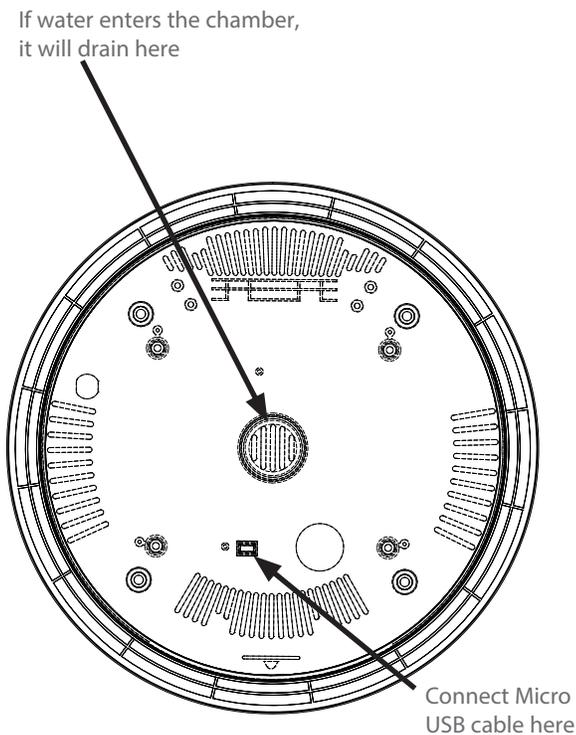

Figure 7: Micro USB Connector
CAUTION: The SinAqua™ Souper™ is designed to operate without water and does not employ steam to heat food. If water is allowed to enter the chamber wherein the tureen is placed, whether by way of operational error or for cleaning purposes, the water will drain below the Souper™ unit (see Figure 7, page 4).
1. Connect the Micro USB cable to the Souper unit (Figure 7, below).
⚠ CAUTION: The SinAqua™ Souper™ is designed to operate without water and does not employ steam to heat food. If water is allowed to enter the chamber wherein the tureen is placed, whether by way of operational error or for cleaning purposes, the water will drain below the Souper™ unit (see Figure 7, below). When installing the drop-in Souper™ unit, plan accordingly.